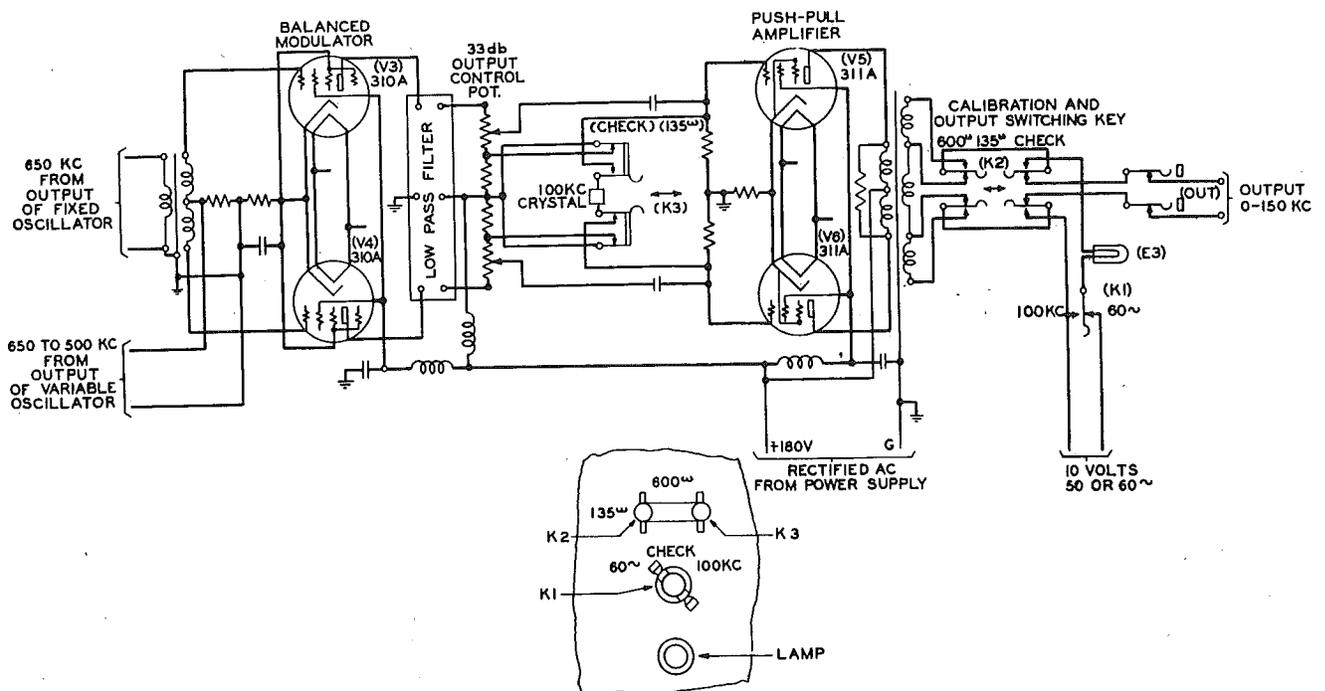

Fig. 6 - Schematic of Modulator-Amplifier.
2.23 A general schematic of the modulator-amplifier is shown in Fig. 6.